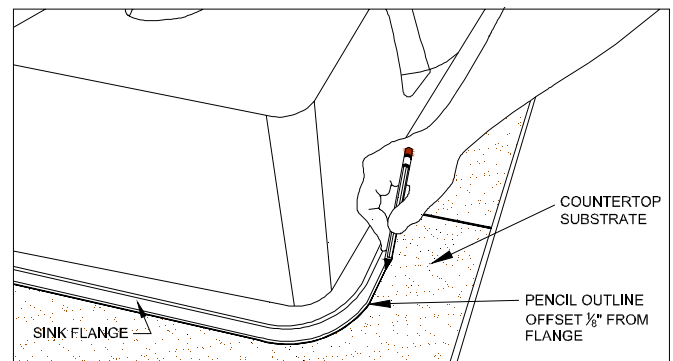

Figure 24B
- With a pencil, trace the outline of the sink, leaving an 1/8" gap between the pencil line and the flange of the sink. (FIG. 24B)